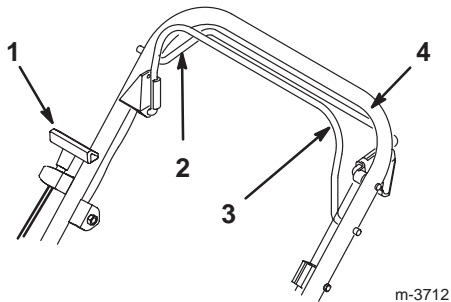

Figure 8
The starter handle, the self-propel drive bail, and the blade control bail are on the upper handle as shown in Figure 8.
3. Hold the blade control bail against the upper handle (Fig. 8).
4. Pull the starter handle lightly until you feel resistance, then pull it sharply (Fig. 8). Allow the rope return to the handle slowly.